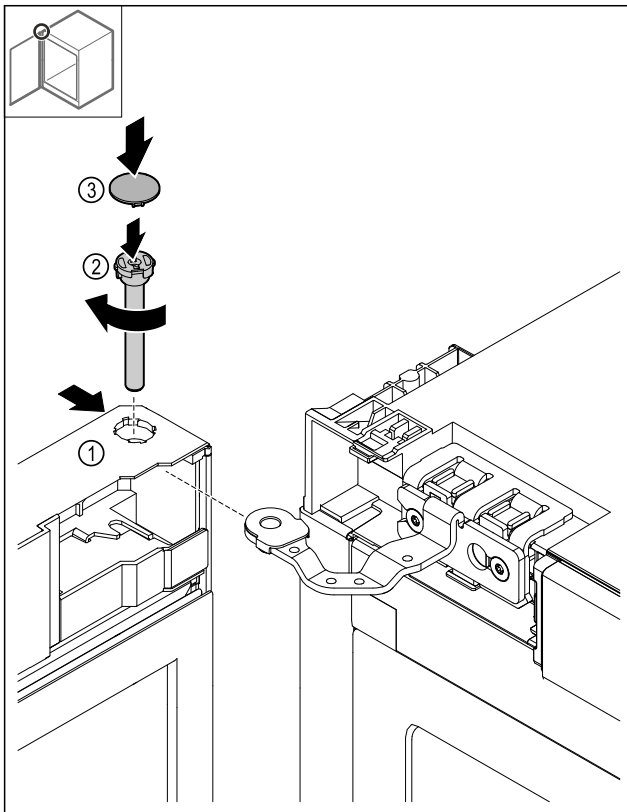

Fig. 45
- ▶ Slide the door Fig. 45 (1) onto the top hinge.
- ▶ Insert the bolt Fig. 45 (2) and turn it clockwise to tighten.
- ▶ Put on the cover Fig. 45 (4).